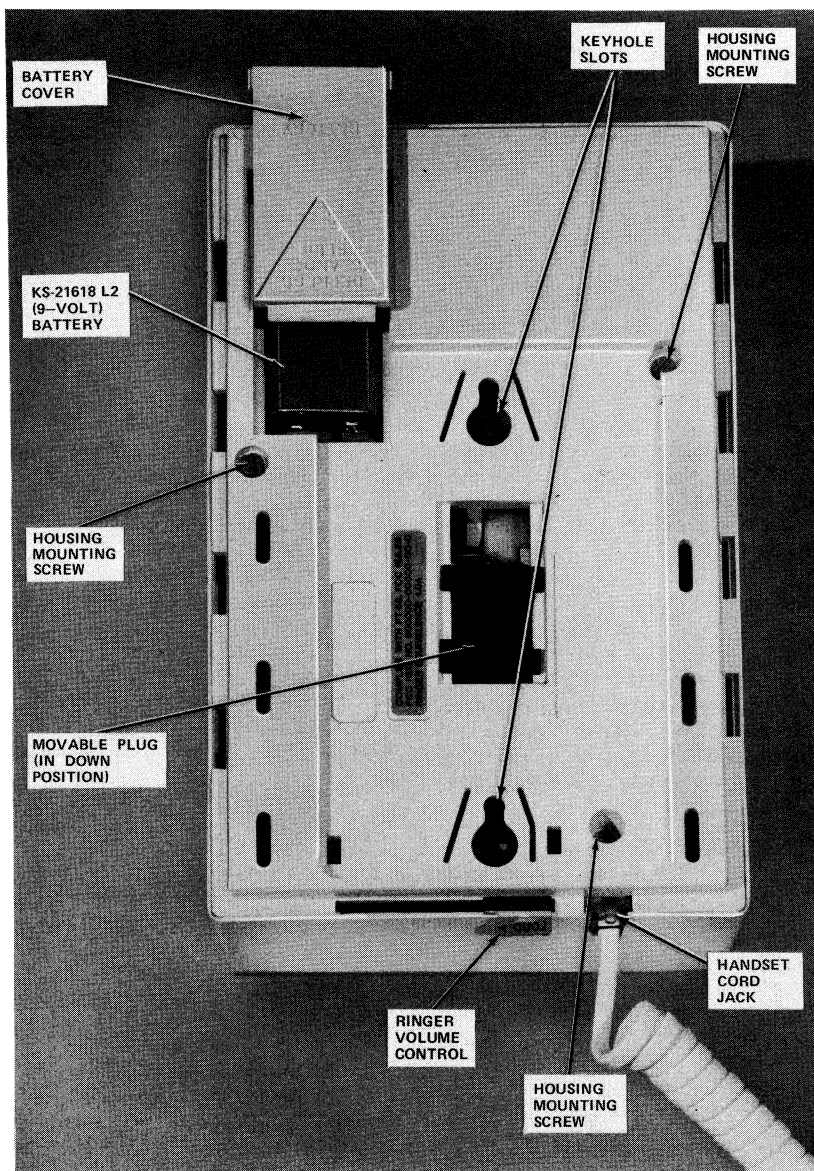

Fig. 3—5011T01A Telephone Set, Bottom View
3.01 The telephone set is shipped with a 9-volt alkaline battery, to be connected at the time of installation. Remove the battery cover on the rear of the set and make the necessary connections. Place the battery in the battery compartment and close the cover (Fig. 3).
3.03 The rear of the set is recessed with two key-hole type slots (Fig. 3). Be sure the movable plug is in the down position as shown in Fig. 3. Align the keyhole slots with the mounting studs on the 630-type connecting block. Push the set in and down engaging the set to the connecting block. Connect the handset cord to the set.
- (1) Dial the appropriate code for ring-back to test the telephone set tone ringer. Move the ringer volume control lever (Fig. 3) on the lower edge of the set to check variation of volume. There is no provision for ringer cut off using the volume control.
- (2) Call the central office (CO) dial test line, when connected press the dial buttons in sequence 1 through 9, *, 0, and # verifying that correct signal is returned from the CO.